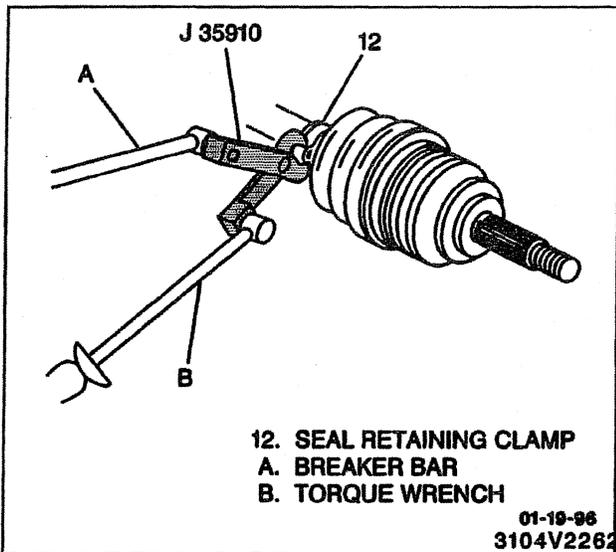
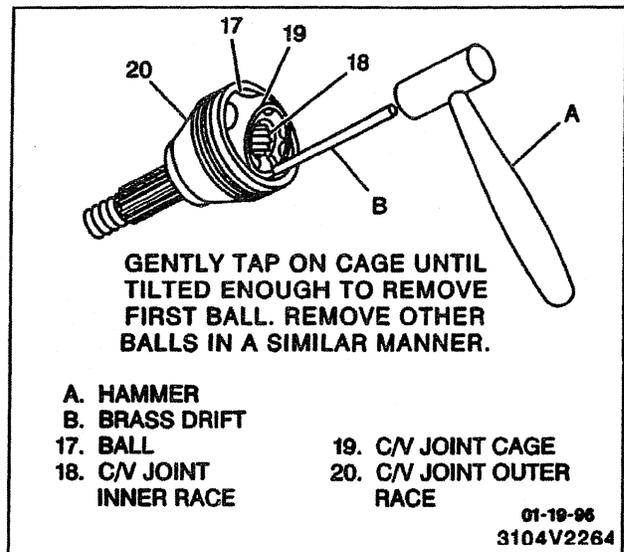
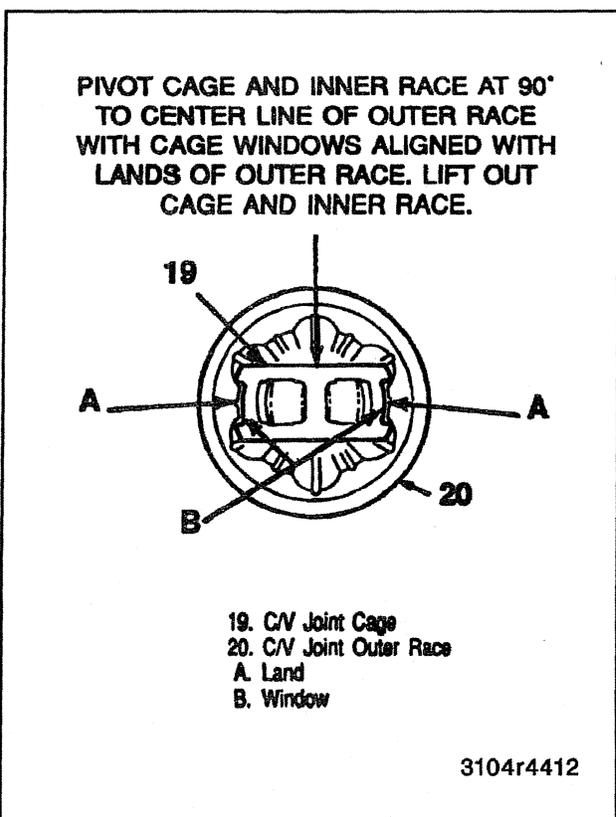
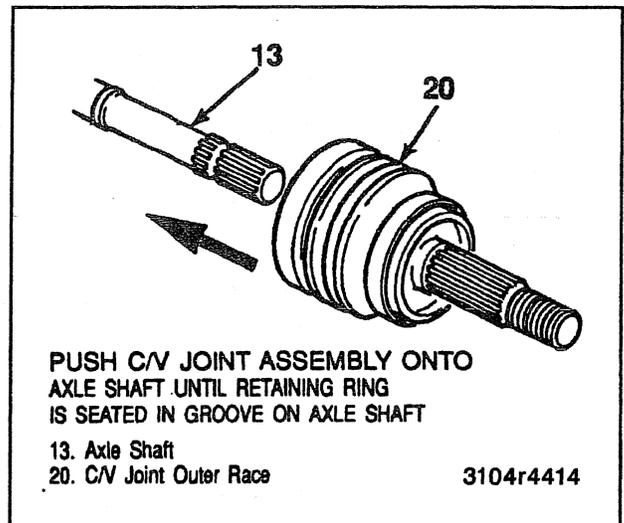

Figure 21—Installing Seal Retaining Clamp
Figure 23—Removing C/V Joint Balls
Figure 24—Separating Outer Race and Cage
Figure 26—Installing C/V Joint to Axle
1. Use a brass drift and hammer to gently tap on the C/V joint cage (17) until it is tilted enough to remove the first chrome alloy ball (15) (Figure 23).
2. Tilt the cage (17) in opposite direction to remove opposing ball (15).
- Repeat this process until all six balls (15) are removed.
3. Position the cage (17) and the inner race (16) 90 degrees to the center line of the outer race (18) and align the cage windows with the lands of the outer race.
4. Separate the cage (17) and the inner race (16) from the outer race (18) (Figure 24).
- B. Align the cage windows with the lands. Pivot the cage into position (Figure 24).
2. Balls (15) (Figure 23).
3. Small seal-retaining clamp (11) on the neck of the new seal (13). Do not crimp.
- A. Slide the seal (12) onto the axle shaft (13) and position the neck of the seal in the seal groove on the axle shaft.
- B. Crimp the self retaining clamp (11) using J 35910.
- Retaining clamp (12) to 136 N.m (100 lb. ft.) (Figure 21).
- C. Place approximately half of the grease provided inside the seal (12) and repack the C/V with the remaining grease.
4. Swage ring (9).
- A. Pinch by hand slightly to distort into an oval shape and slide onto large diameter of the seal (12).
- B. Push C/V joint onto axle shaft (13) until retaining ring (14) is seated in groove on axle shaft (Figure 26).
1. Small seal-retaining clamp (11) on the neck of the new seal (12). Do not crimp.
- B. Crimp the self-retaining clamp (11) with J 35910 to 136 N.m (100 lb. ft.) (Figure 26).
- Crimp seal retaining clamp (11) with J 35910 to 136 N·m (100 lb. ft.) (Figure 21).